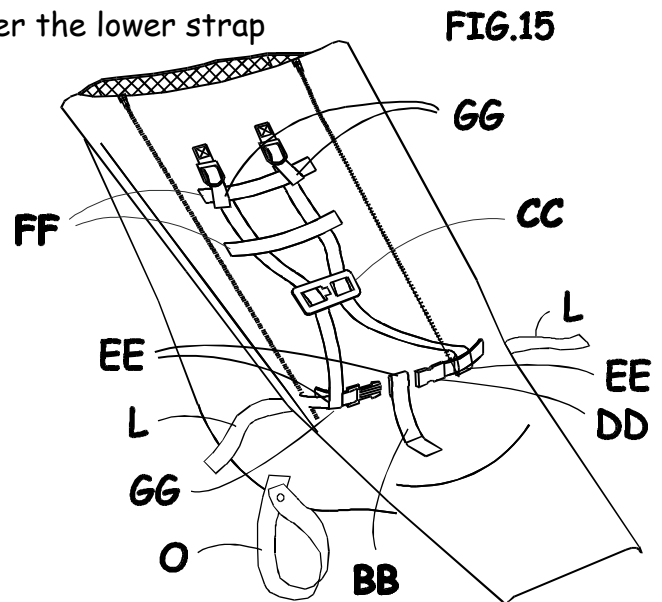

FIG.15
ALWAYS USE THE KOOL-STRIDE® 5 POINT SEAT HARNESS (FIG. 15)
- Thread lap buckle **DD** thru strap loops **EE** as shown in FIG. 15 and snap it closed.